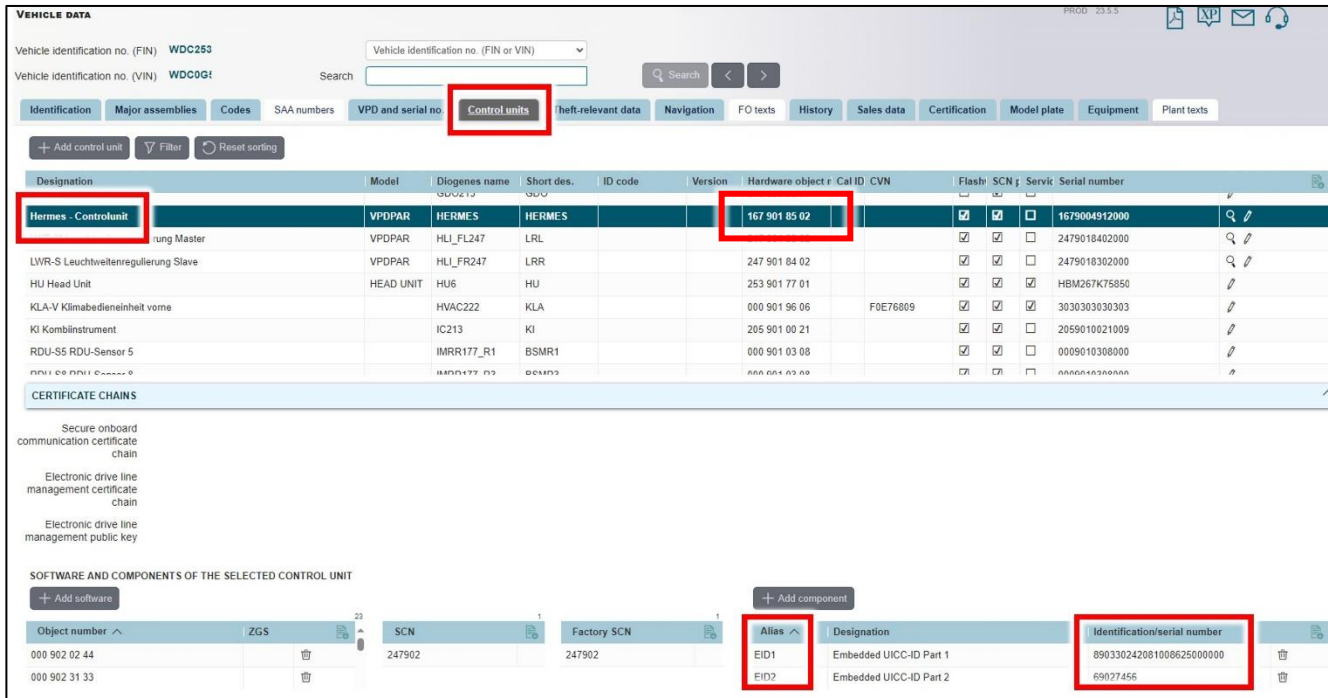

Figure 6\*\*
**i** To do this, enter the VIN, “Search”, select “Control units”, and click on “Hermes - control unit” (Figure 6).
\*\* Make note of the HERMES Hardware object number for determining replacement part number! (e.g. Figure 6 – Hardware object number is 167 901 85 02)